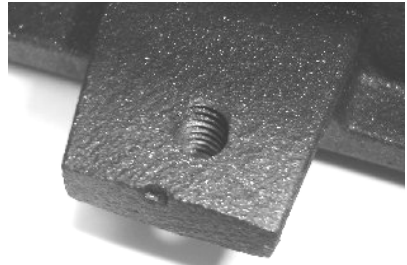

FIGURE 31. SIDE CASTING, THREADED TONGUE.
5. Carefully lift and locate the side and front castings, as one assembly, to the base casting. This is a snug assembly and care should be taken not to rush this procedure. Once the side and front casting assembly is located squarely to the base casting, secure it using the 2off bolts and washers provided. These locate from underneath, through the clearance hole in the base casting, and screw into the threaded tongue on the bottom of each side panel. See figure 31.